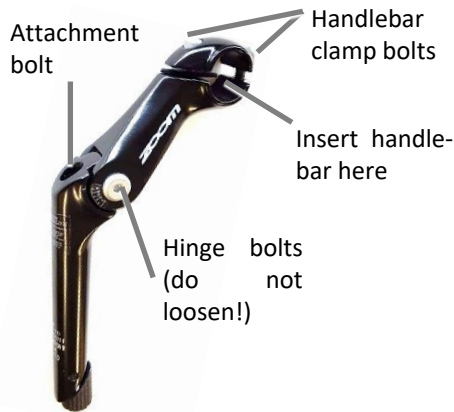
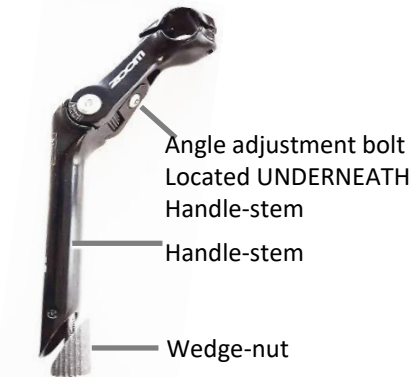
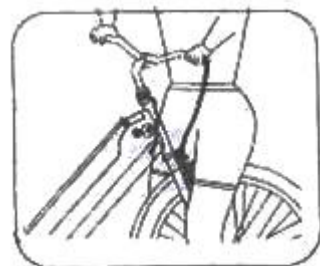

Figure QS1: view from top/side
Figure QS2: view from bottom/side
Figure QS4
- **To insert handle-bar into stem,** remove handlebar clamp bolts, insert handle-bar at location shown in figure QS1. **Centre** handle-bar, adjust position until suitable and tighten handle-bar clamp bolts to 19Nm.
- **To adjust ANGLE of STEM** loosen angle adjustment bolt (Figure QS2) underneath handle-stem. **DO NOT** loosen hinge bolts (Figure QS1). Tighten angle adjustment bolt to 19 Nm.
Figure QS4: To align stem with wheel, walk to front of bike, put wheel between your legs. Adjust position until stem is centered. Loosen attachment bolt (Figure QS1) if needed and tighten to 14 Nm after adjusting. Move handle-bar left and right while holding wheel between your legs. The alignment shouldn't come loose easily. Make sure handle-stem is installed safely and push down handle-bar down with force to make sure it won't come loose while riding. If needed tighten handle-bar clamp bolts and handle-bar attachment bolts. (Figure QS1-3).